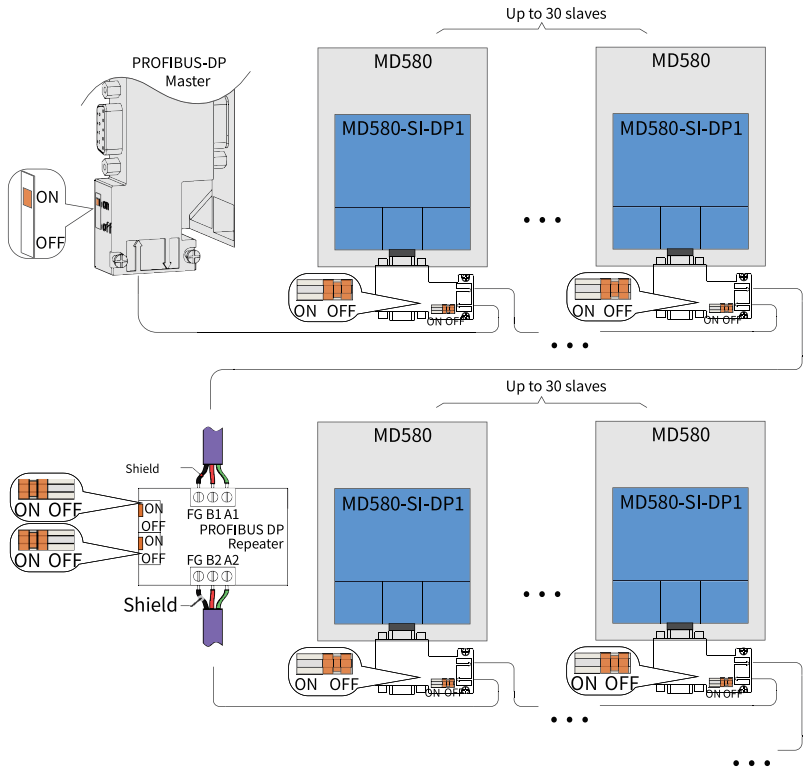

Figure 3-34 Multi-drive system connection with repeaters
- For multi-drive system connection with repeaters, connect termination resistors to the first and last AC drives, and connect the termination resistor of the repeater, as shown in *"Figure 3-34 Multi-drive system connection with repeaters" on page 92.*